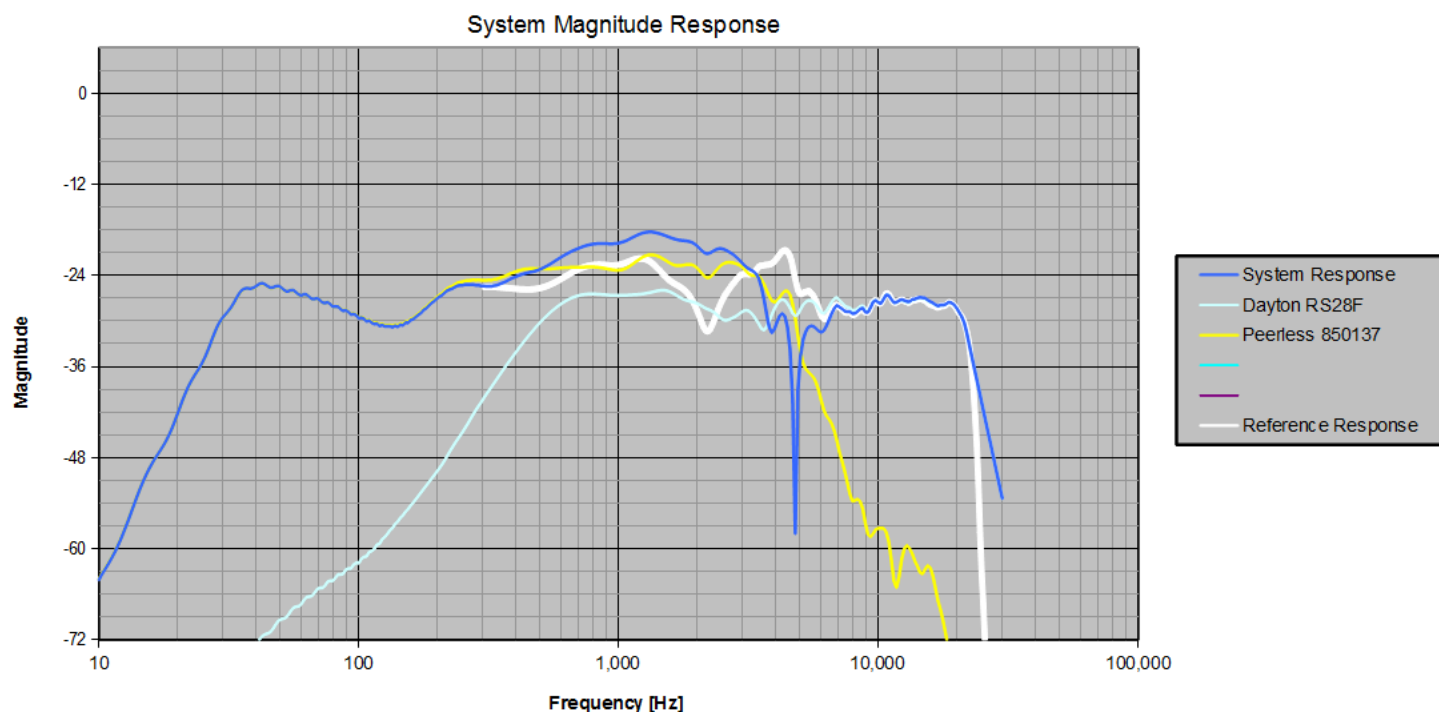

Figure 2: Plot of the System Magnitude Response with all data from this tutorial successfully entered.
7. Let’s also update the labels for each driver in the plot legend. In the SYSTEM workbook, select the driver_1 worksheet and find cell F1 containing the blue text “DRIVER 1 NAME”. This cell is used in the plot legend, and we should change it to something more descriptive. Enter the text “Dayton RS28F”. Next, select the driver_2 worksheet, position the cursor in cell F1 and enter “Peerless 850137”. Returning to the SystemInfo worksheet, you should find that the plot legend has updated and looks like the plot shown in Figure 2, below, including the Reference Response (white) line.